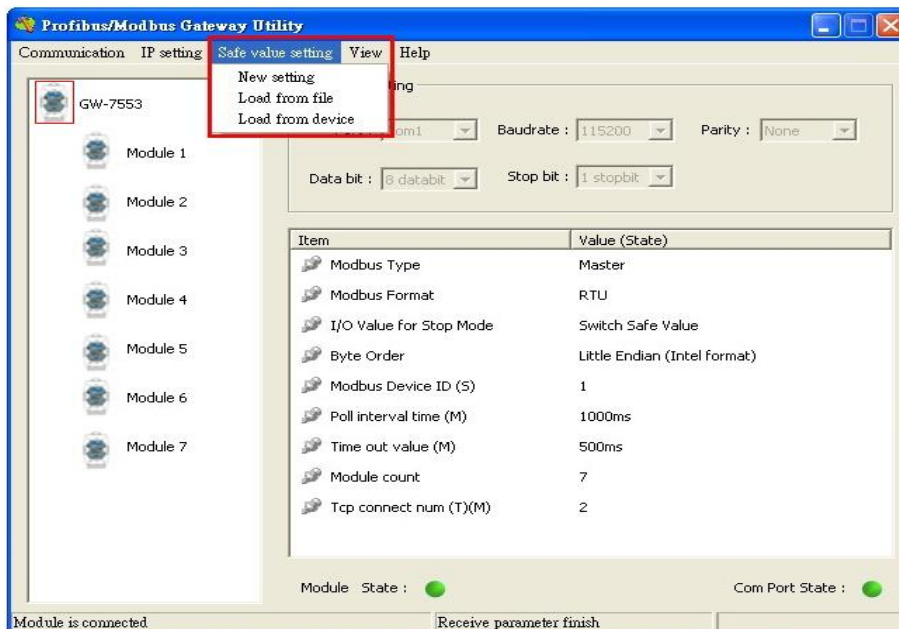

Figure 100 The menu of safe value setting
There are 3 kinds of safe value setting. They are (1) Open a new setting 、(2)Load from file 、(3)Load from device, as shown in **Figure 100**.